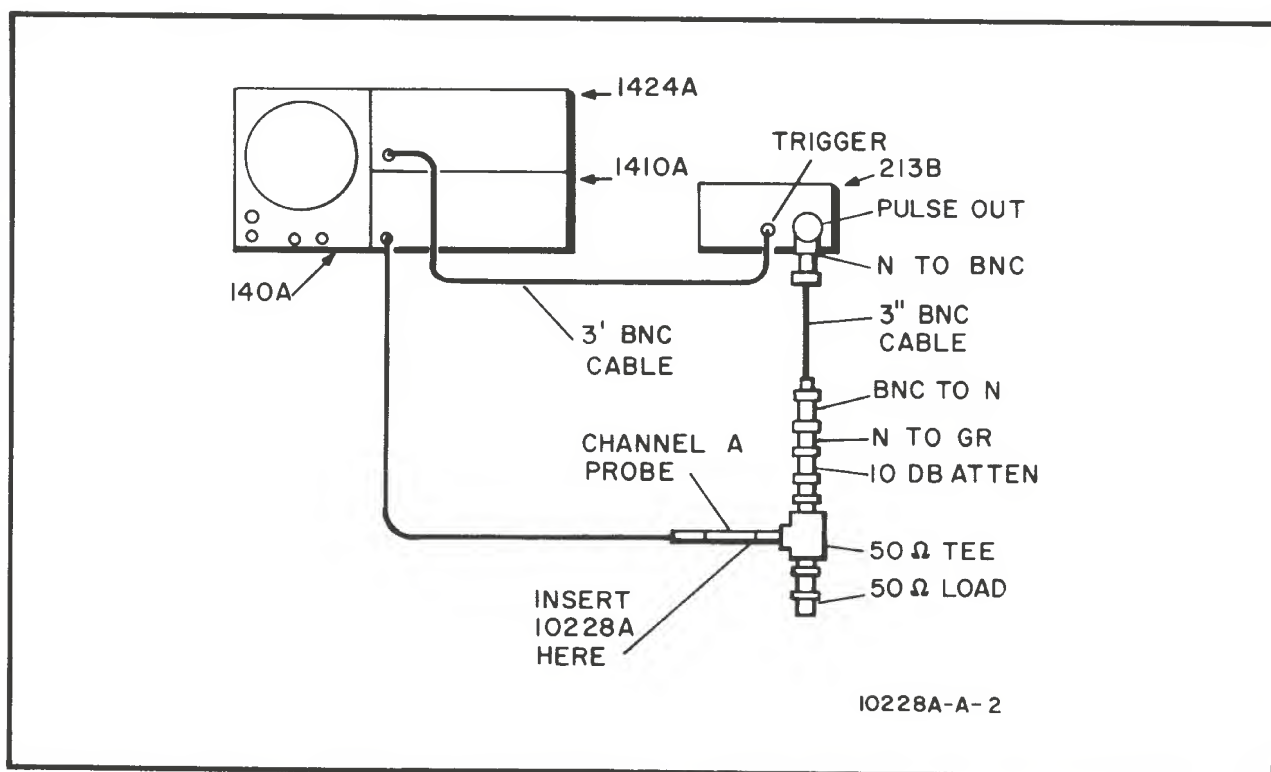

Figure 3. Test Set-up
- Make connections as shown in Figure 3.